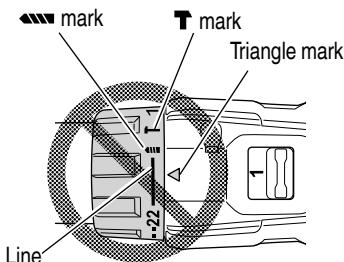

Fig. 15
- Do not use with the clutch dial number at "22" and the line at the middle of the drill mark. Doing so may cause damage. (See Fig. 15)